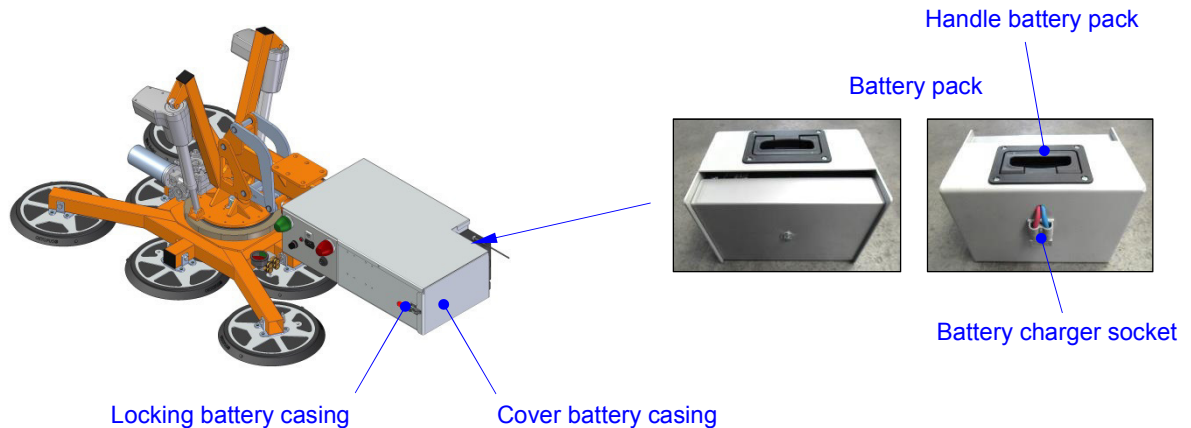

Fig. 7: Battery pack
- ⇒ Put the battery pack on an even surface, as shown in fig. 7.